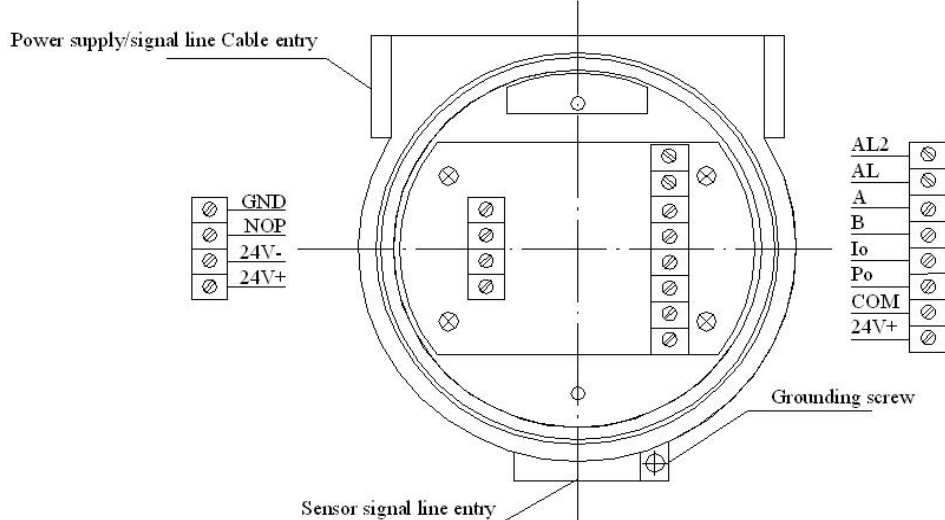

Figure 3. 24VDC Power supply wiring board
1) **The normal wiring terminal board, showed in Figure 3**